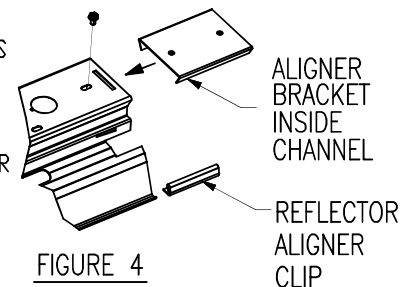

FIGURE 4
- 5) REMOVE END CAP, FROM ONE END OF CHANNEL, AND INSTALL ALIGNER BRACKET (5F-IJ ORDER SEPERATELY) AS SHOWN IN FIGURE 4. DO NOT TIGHTEN SCREW COMPLETELY.
- 8) INSTALL REFLECTOR ALIGNER CLIPS TO LOWER FLANGES OF REFLECTOR AS SHOWN IN FIGURE 4. PUSH REFLECTOR ALIGNER CLIP COMPLETELY ONTO REFLECTOR.
- 5) RETIRER LE CAPOTEUR D'END, DE LA FIN DE CHANNEL, ET INSTALLER LE SUPPORT D'ALIGNER (5F-W ORDER SEPERATELY) COMME À LA FIGURE 4. NE PAS SERRER TOUJOURS DE LA VIS.
- 8) INSTALLER LES CLIPS D'ALIGNER REFLECTEURS À DES FLANGES INFERIEURES REFLECTEUR FIGURE 4. REFLEXION PUSH ALIGNER CLIP COMPLETEMENT SUR REFLECTEUR.